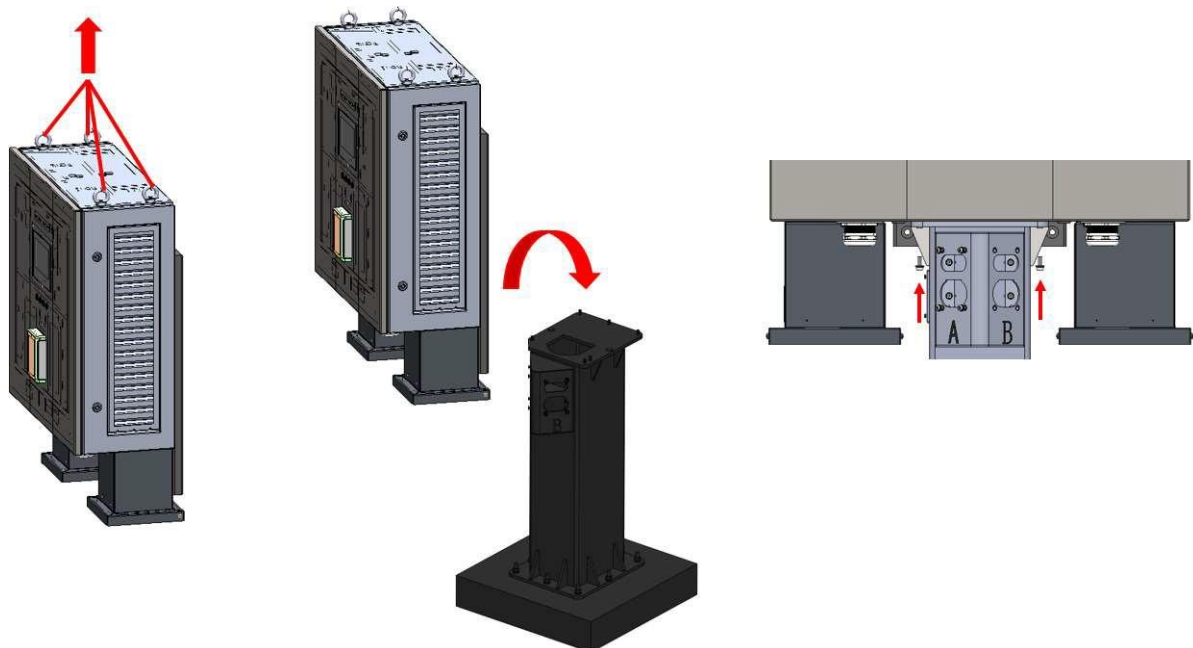

Figure 32 Charger main body installation diagram
(3) Move the charger main body to the pole position by hand crane, align the screw holes, and fix the charger main body on the pole with 7 screws of M8 × 30, as shown in Figure 32.